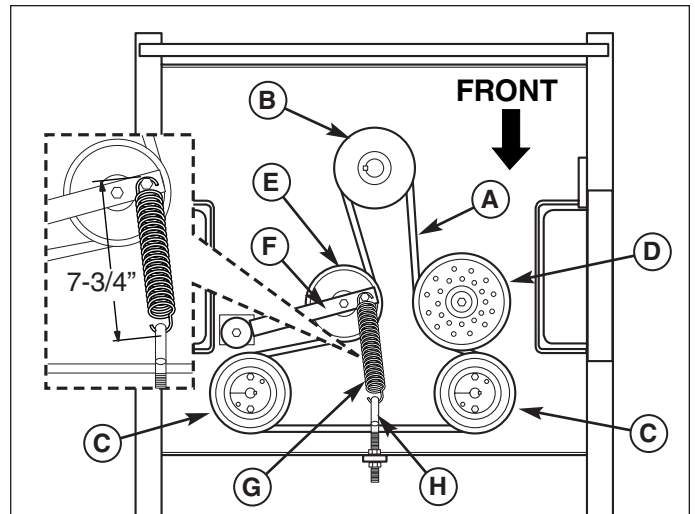

Figure 35. Hydraulic Pump Drive Belt Replacement
3. Loosen the nut towards the front of the machine on the spring anchor hook (H, Figure 35) to release the majority of the belt tension. Use caution and remove the nut to completely release the tension.
4. Remove the old belt and replace it with the new one. Make sure the V-side of the belt runs in the grooves of the crankshaft pulley and pump pulleys (B & C, Figure 35).
5. Reinstall the anchor hook (H, Figure 35) into the anchor tab and loosely fasten the nut. Adjust the spring until a measurement of 7-3/4" is achieved from the outside of the spring hooks. Tighten nut.